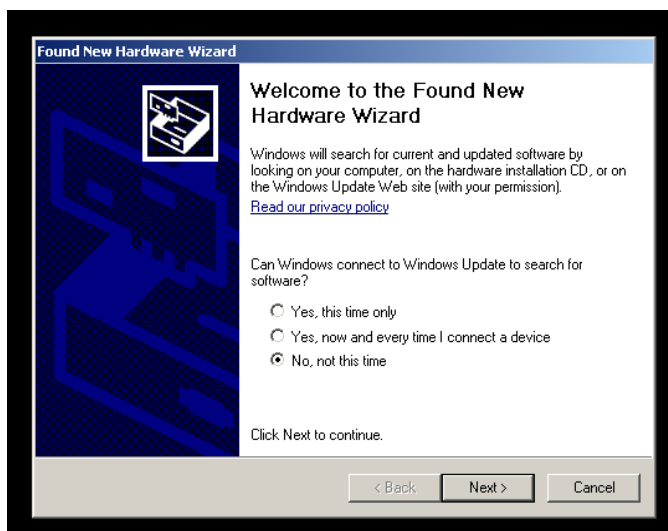

Figure 2-8: Found New Hardware Wizard (Page 1)
- a) Select *No, not this time* from the *Found New Hardware Wizard* as shown in Figure 2-8.
- c) Select *Install the software automatically (Recommended)* from the *Found New Hardware Wizard* shown in Figure 2-8.
The next page of the *Found New Hardware Wizard* as shown in Figure 2-8 will then be displayed while searching and copying the files.
When the installation is complete, the next page of the *Found New Hardware Wizard* as shown in Figure 2-8 will then be displayed.